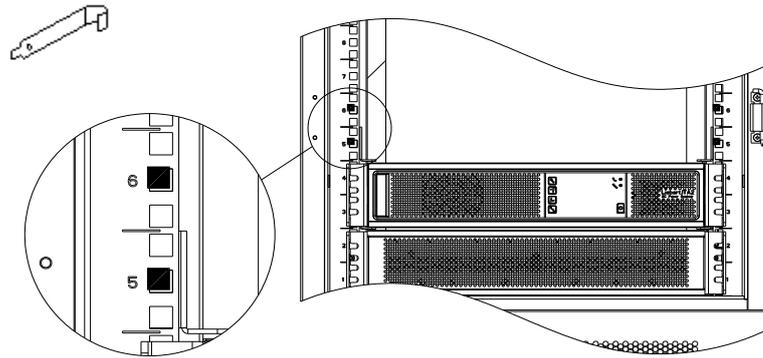

Figure 2-20 Install the floating nuts 2
5) Install floating nuts (4 pcs) at the 5U and 6U intermediate holes of the left and right columns, as shown in Figure 2-20.